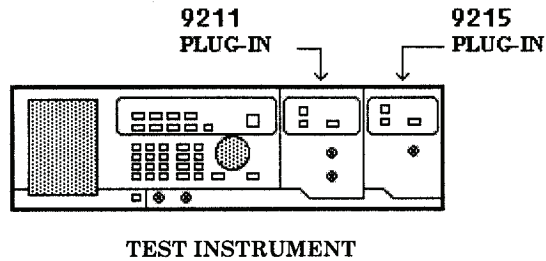

Figure 1. Test instrument configuration.
a. Configure TI as shown in figure 1.